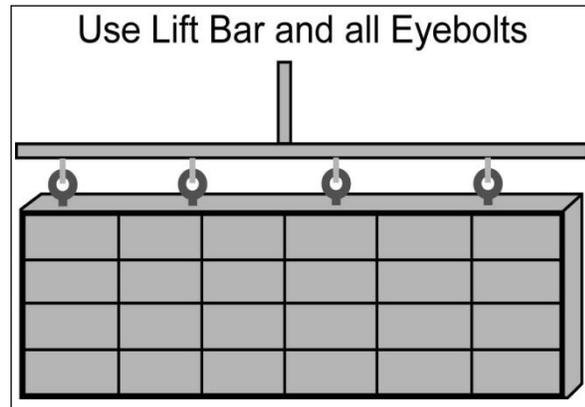

Figure 7: Correct Lifting Procedure
- The location of mounting clips, and the clearance needed for the power and signal terminations on the back of the display. Refer to **Figure 7**.
1. Lift the display into position on the support structure. Refer to **Figure 7**.
- Use all eyebolts to lift the display, as shown in **Figure 7**. Failure to do so may result in tear-off at hardware connections.